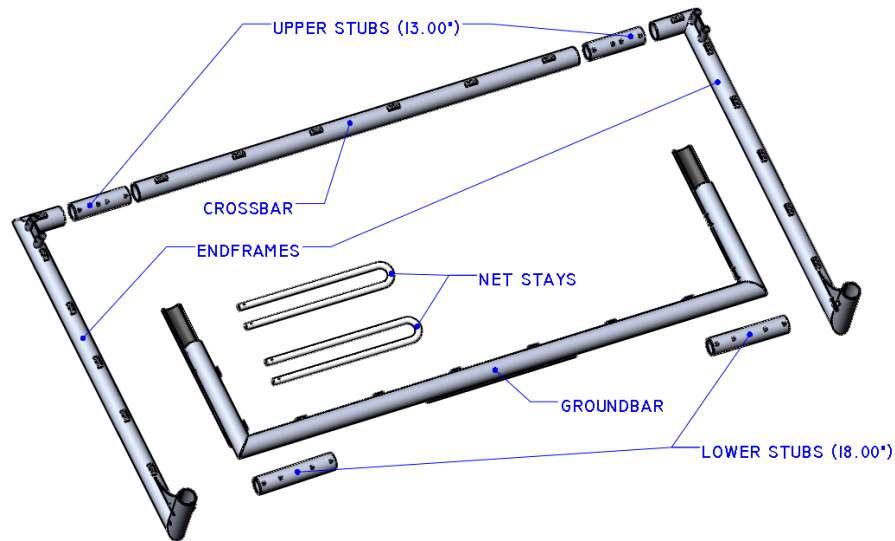

Figure 1
1. Begin by laying out all of the futsal goal components. Place the end frames far enough apart to fit the top crossbar between them with the net clips facing outwards. Place one upper stub at each connection. (Fig. 1).